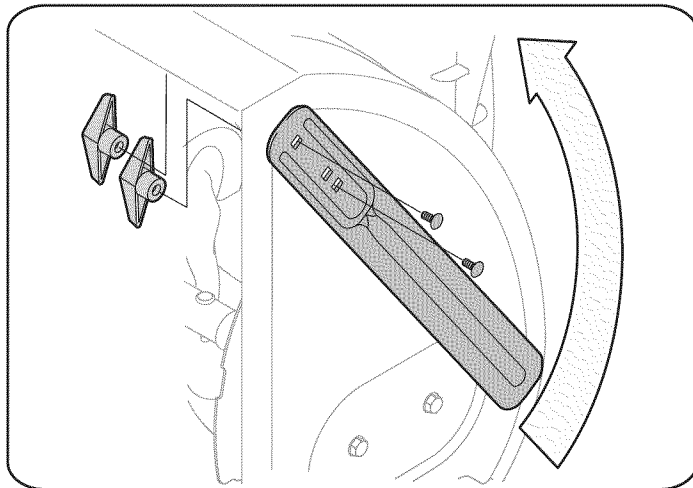

Figure 8
1. Remove the four wing knobs (two on each side) and carriage bolts. Place drift cutter in upright position and re-secure. See Figure 8.